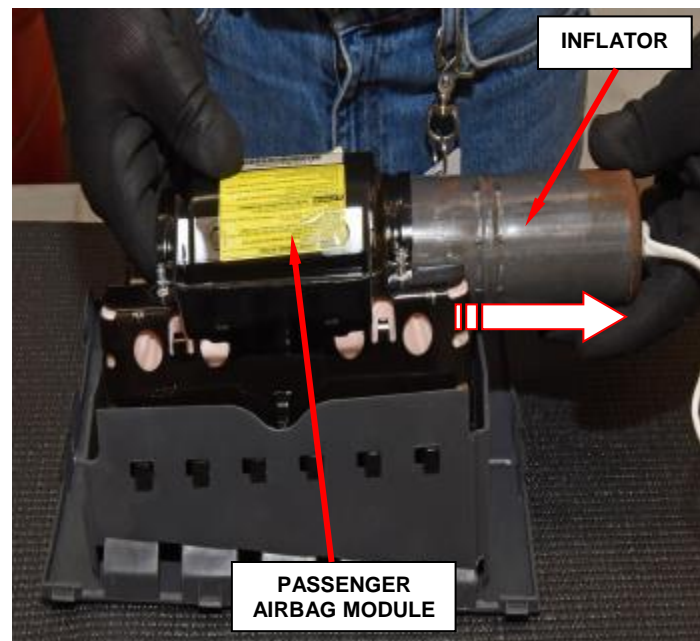

Figure 8 – Inflator Removal
- e. Slide the inflator out of the passenger airbag module (Figure 8).